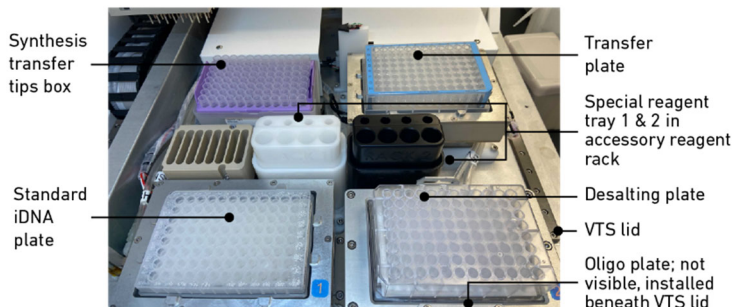

Figure 2. Placement of Plates and Synthesis Transfer Tips
9. After scanning the plate barcodes, place plates and synthesis transfer tips box on the deck (Figure 2). Ensure the plates are oriented with well A1 at the top left.